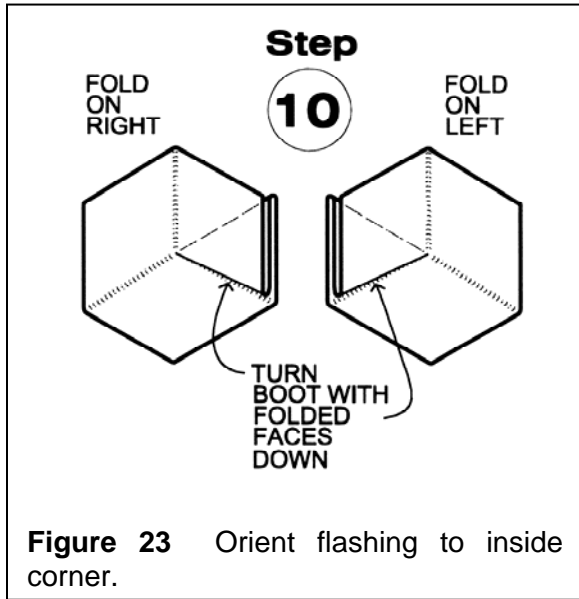

Figure 23 Orient flashing to inside corner.
Step 10. The triangular fold of the inside corner boot must be oriented to fit a left-hand or right-hand inside corner so the fold is always down. See Figure 23.